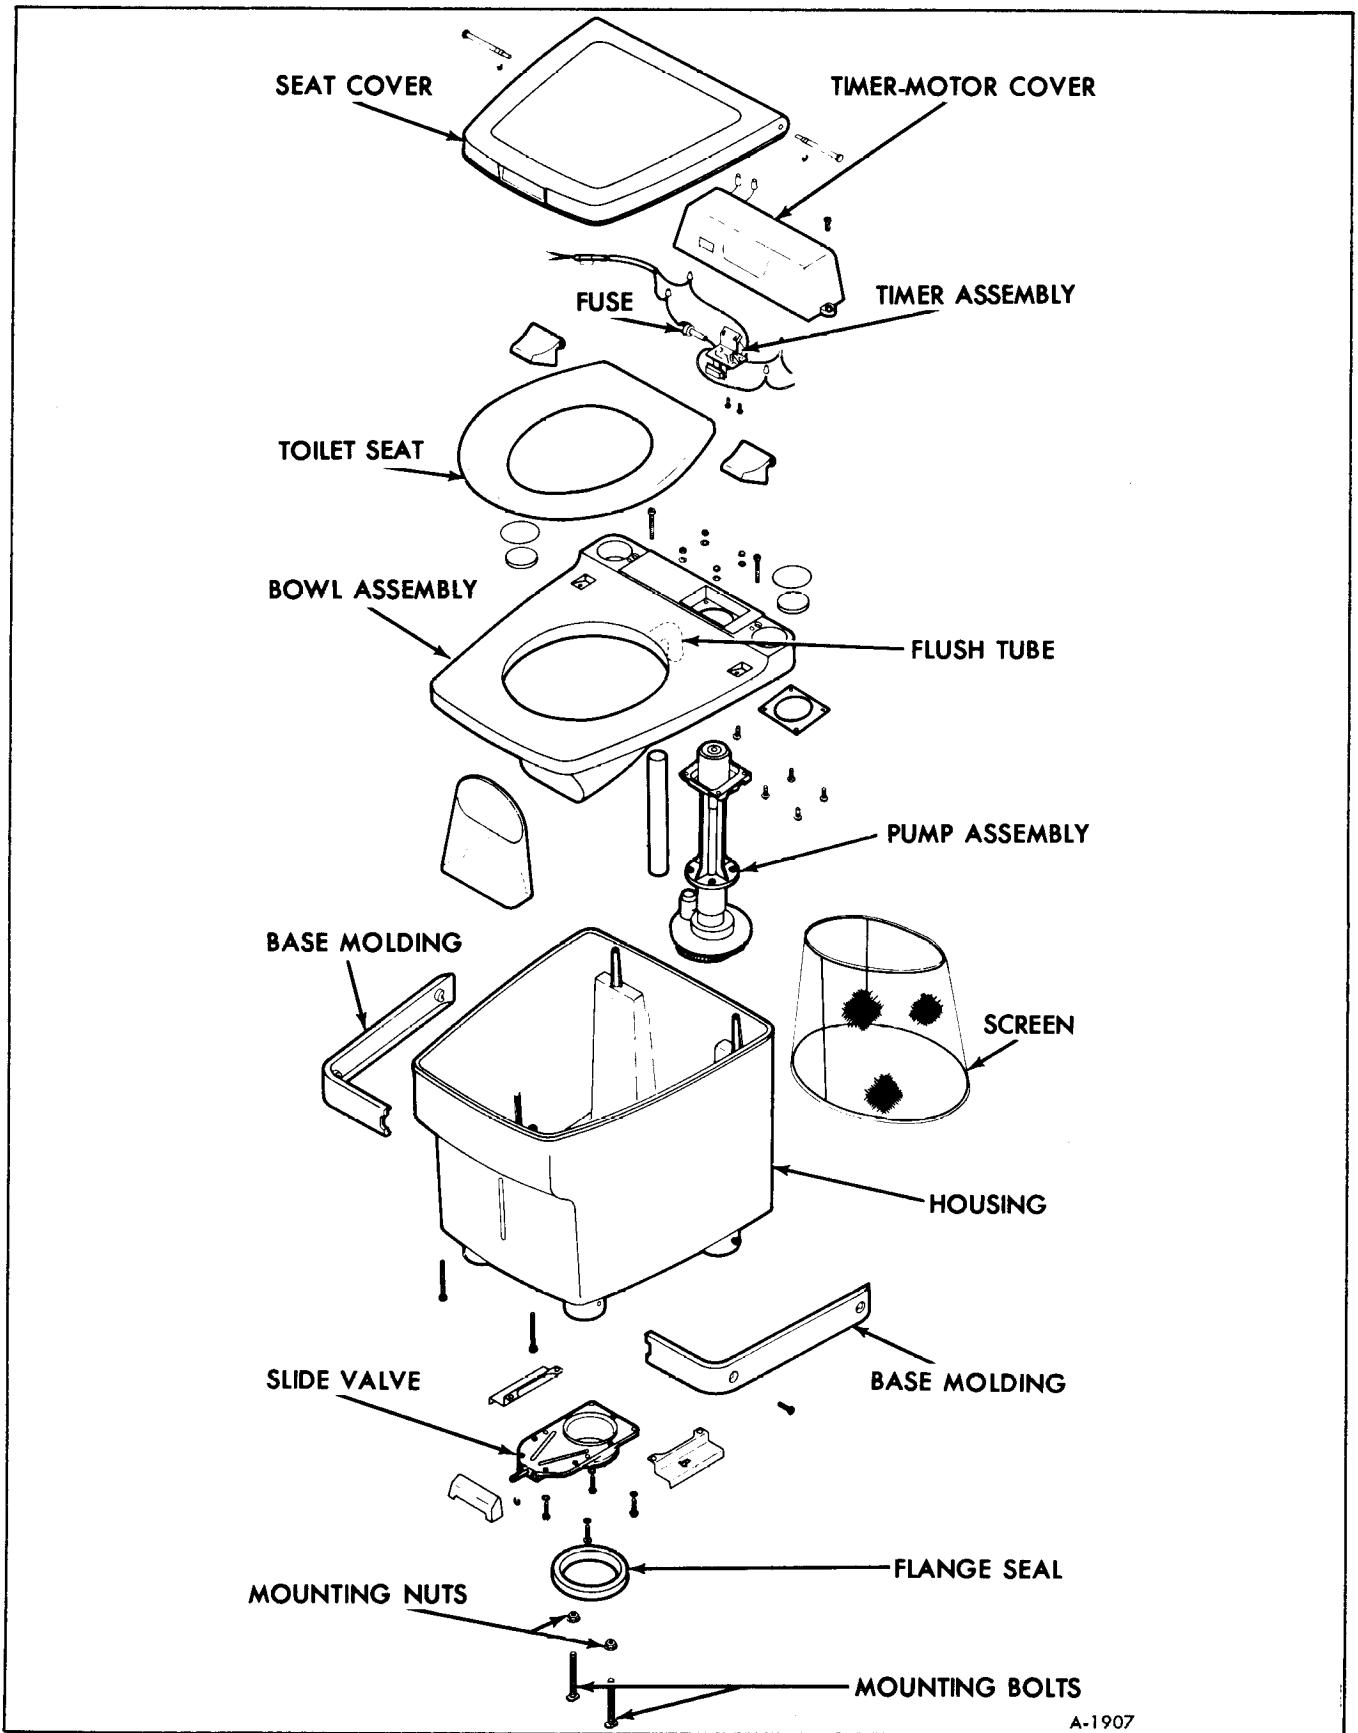

Figure 3-Recirculating Toilet Components
DISASSEMBLY AND REPAIR (FIGURE 3)
2. The fuse is now accessible for checking or changing, see Figure 3.
1. Disconnect lead wires from power source (figure 3).
3. Disconnect leads from pump assembly motor (figure 3).
5. Remove cover and bowl assembly screws (two in rear from top side and two in front from bottom side) and remove cover and bowl assembly (figure 3).
6. Remove four pump mounting screws (figure 3).
7. Disconnect flush tube from pump outlet (figure 3).
8. Remove pump assembly (figure 3).
SLIDE VALVE REPLACEMENT (FIGURE 3)